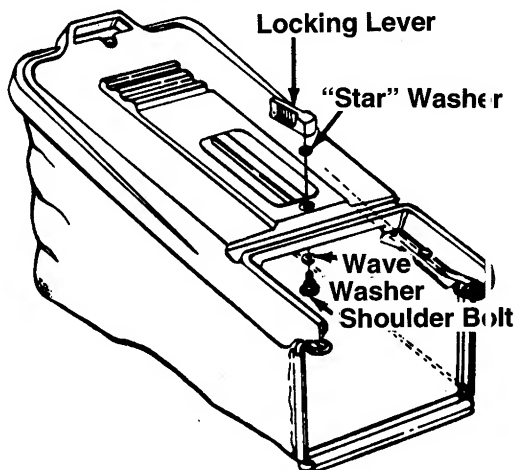

FIGURE 12.
- b. Insert shoulder bolt up through hole in hardtop cover as shown in figure 12. Place "star" washer over shoulder bolt.